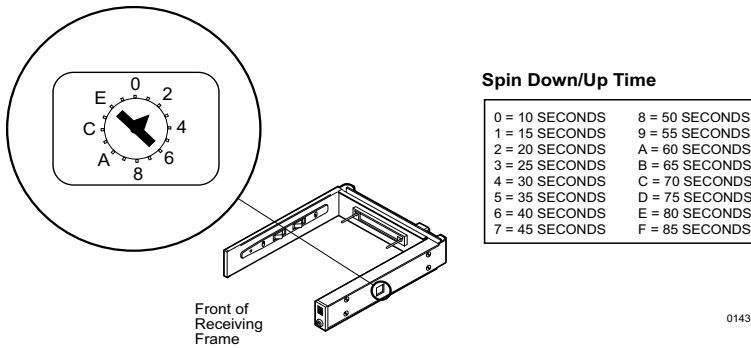

Figure 11: Device Spin Down/Up Timer
- **Device Spin Down/Up Timer** may be disabled by removing Jumper J6 P1-P2 (Figure 5). This feature allows the receiving frame unit number display to provide a visual indication of drive spin down/up activity. Refer to Figure 11 for switch settings.
NOTE: The timer for device spin down is controlled by a small selector, located in a cutout on the side of the DE100 receiving frame as shown in Figure 11. When the key is turned to the OFF position, and when the timer receives a No SCSI Activity signal from the Hot Swap Board, it waits the specified delay time before displaying a "u" on the front panel of the receiving frame. The amount of time required for a disk drive to spin down is approximately 15 seconds or more. This number can vary depending on the type of SCSI device and manufacturer (e.g. a Seagate Barracuda may require 45 seconds). The factory configuration is set for 20 seconds. A different delay time may be selected with the provided alignment tool. Refer to the SCSI device manufacturer's manual for more information on required device spin down time.